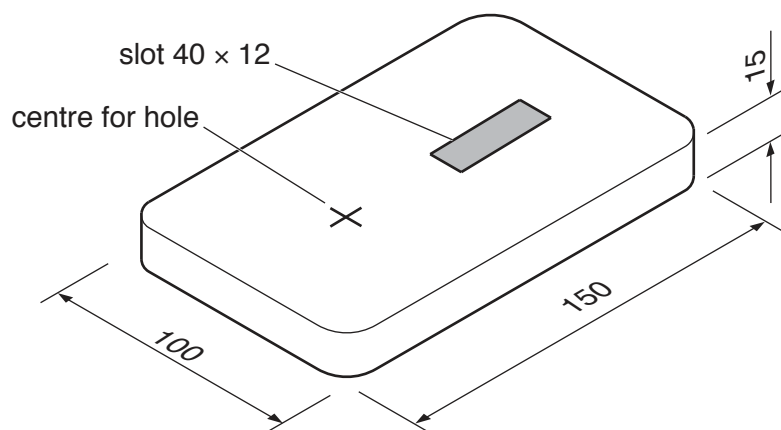

Fig. 10
- (a) Fig. 10 shows the base of the counting toy. The base is made from beech.